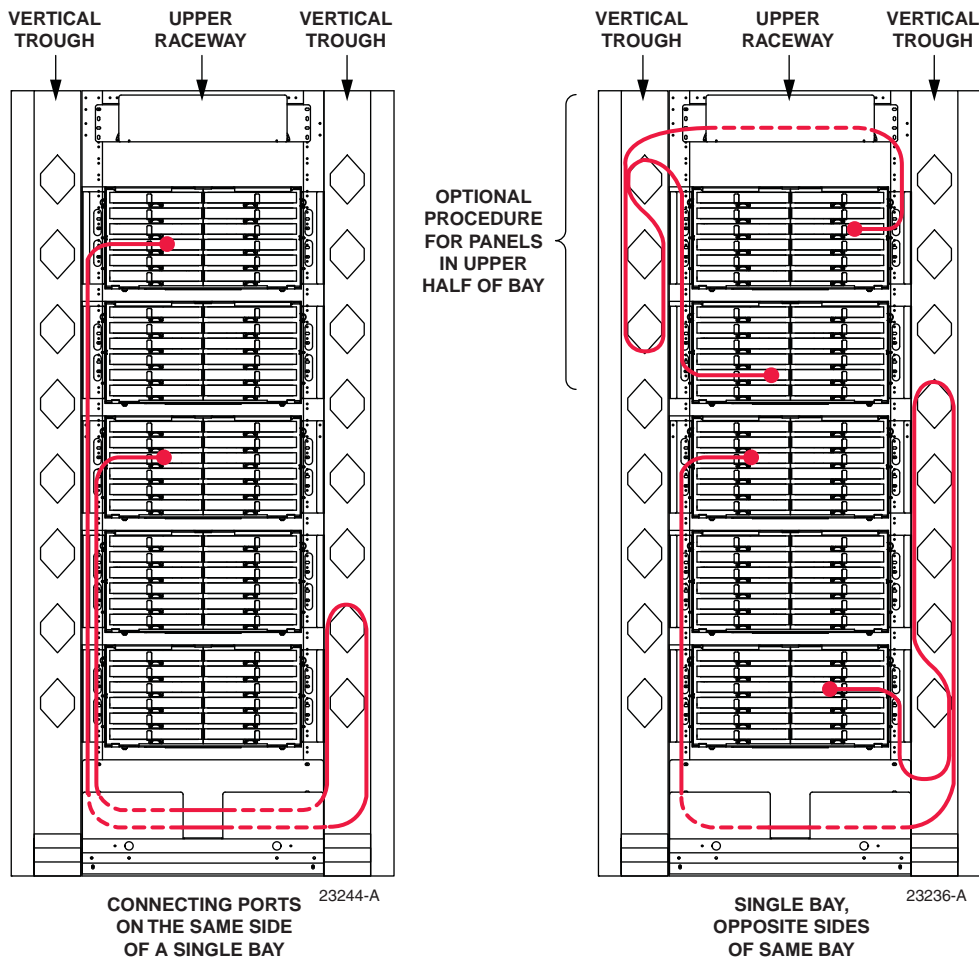

Figure 15. Routing Patch Cords on a Stand-Alone Bay
1. Determine whether the ports to be connected are on the same side or opposite sides of the bay, as shown in Figure 15.